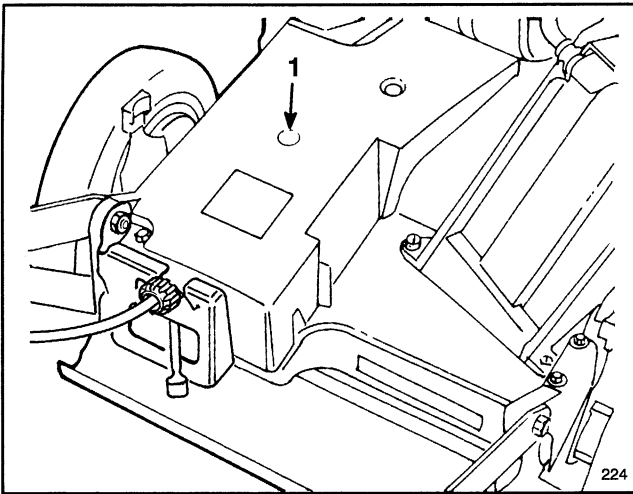

Figure 28
2. Install grease gun onto fitting thru belt cover opening (Fig. 28). Gently apply 1-2 pumps of grease.